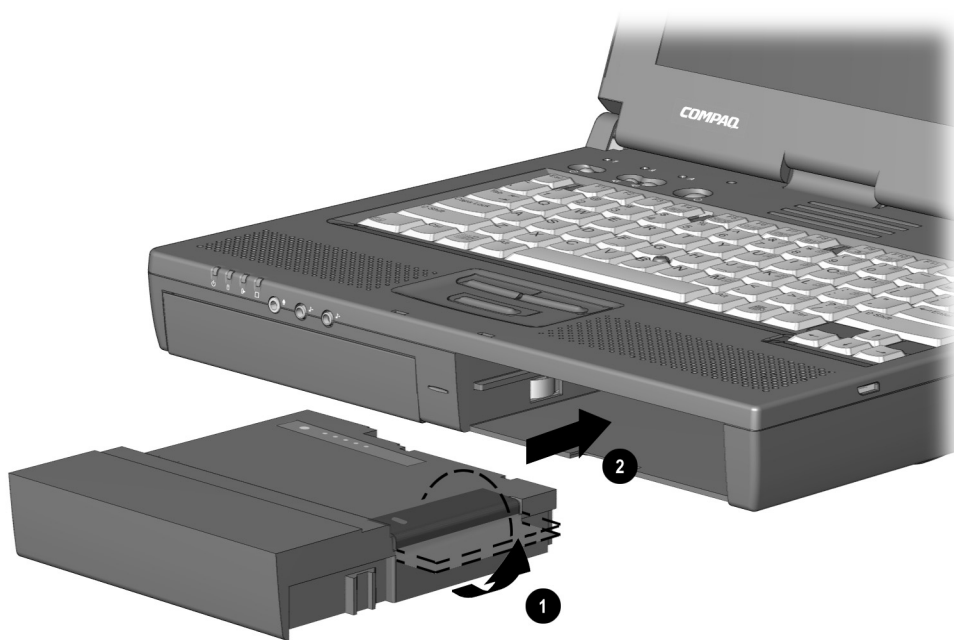

Figure 5-12. Inserting a Dual-MultiBay Battery Pack
1. Rotate the flap onto the top of the Dual-MultiBay battery pack and snap the flap into place **1** (Figure 5-12).